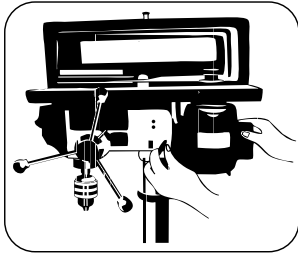

FIGURE 8.14
- When the desired tension is reached, tighten the belt tensioner (Figure 8.14).
A. Check the tension and the condition of the belt(s) (Figures 8.14 and 8.15).